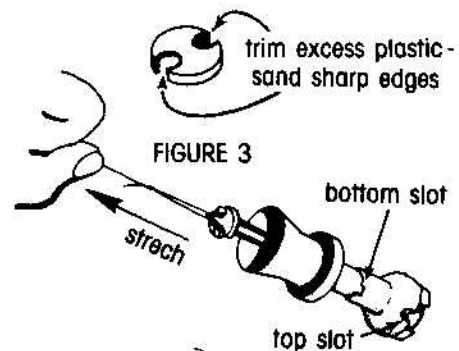

FIGURE 3
Trim excess plastic from Retainer(9) holes and sand to remove sharp edges. Pull Umbilical to stretch Bands and insert Retainer between Bands and Adaptor (fig. 3). Slowly release Umbilical to center Retainer in Adaptor. This completes the Lower Body Assembly.